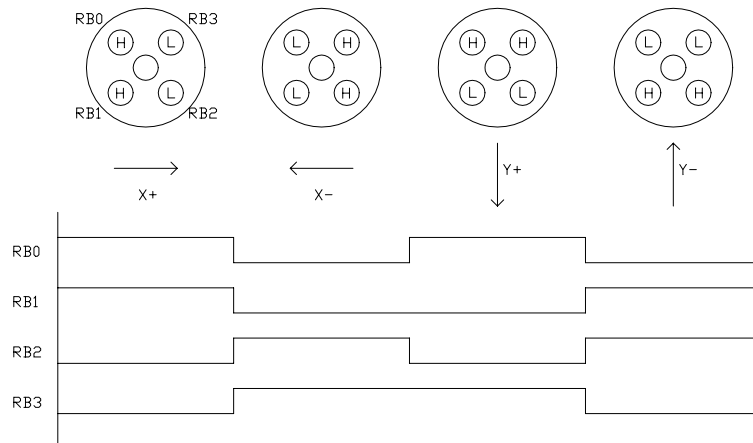

Figure 3
Excitation for the dual axis requires that a dual set of pins be excited for each half cycle and each axis. This would result in a four-quadrant waveform. Shown in *Figure 3* is the polarity on each pin for each quadrant of excitation. The output ports of the micro-controller provide excitation. The excitation signals must be timed in software in order to provide a symmetrical waveform. This is to prevent any dc component to the tilt sensor.
- 1 - Start an interrupt to toggle the output ports for the tilt sensor excitation. This would produce the 4-quadrant pattern as shown in Figure 3.